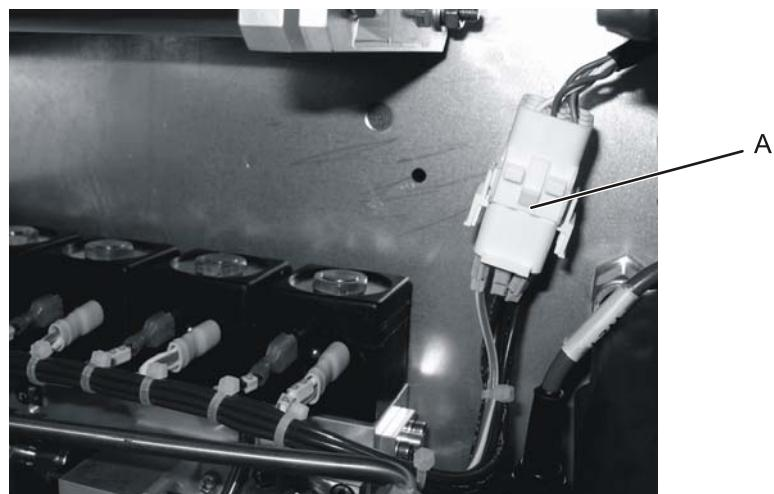

Figure 102: Gas valve block electrical connections
24. Disconnect the electrical connections from the gas valve block (see Figure 102, A).
32. Reconnect the valve block electrical connections (see Figure 102).